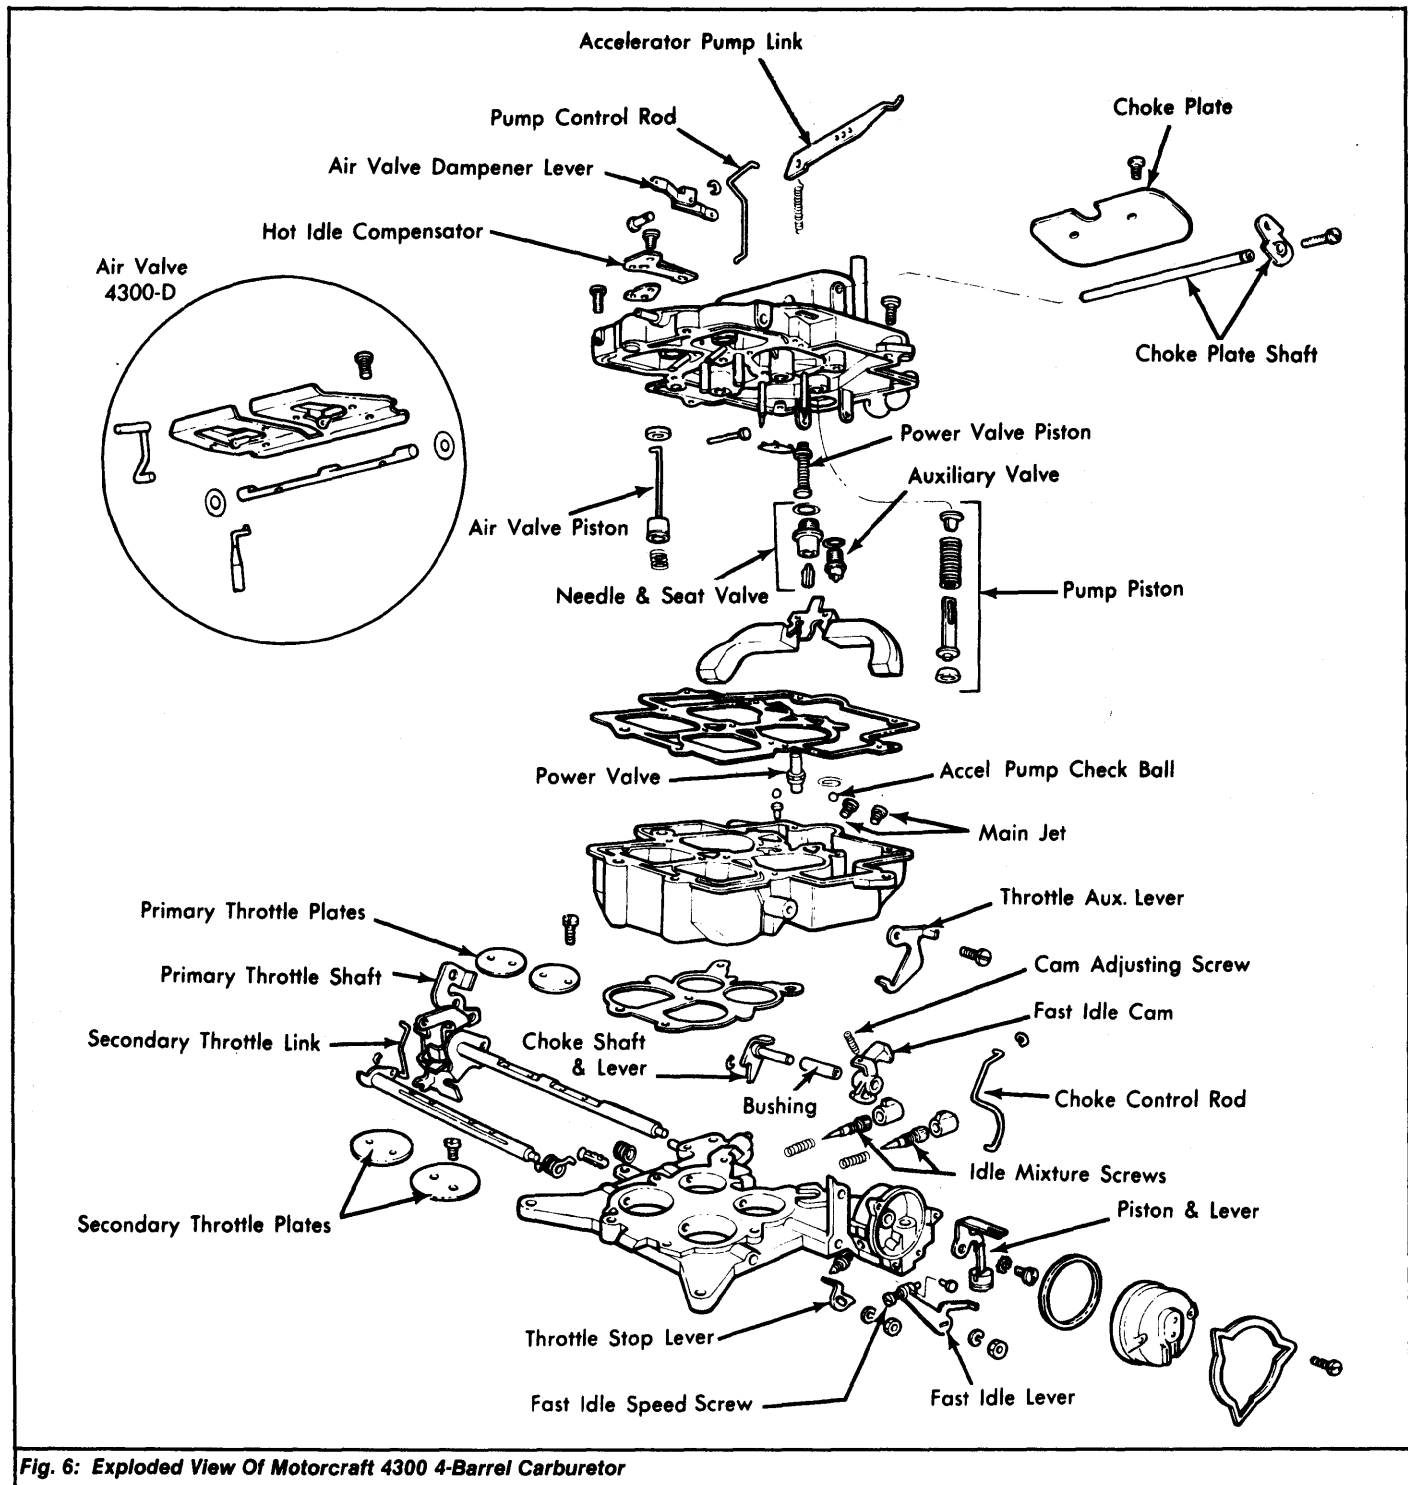

Fig. 6: Exploded View Of Motorcraft 4300 4-Barrel Carburetor
- 6) Invert main body assembly and catch accelerating pump discharge needle which will fall out. Use 3/8" deep socket to remove power valve. Remove main metering jets from within fuel bowl. See Fig. 6.